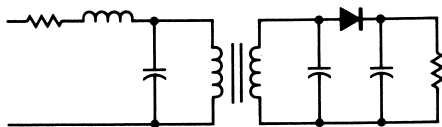

FIGURE 8.10. Transformer/Filter Circuit Showing Placement of Transient Protection Components
There are several alternate methods of protecting the rectifier diodes. All rely on the existence of some line impedance, primary transformer resistance or secondary circuit resistance. See Figure 8.10 for the system circuit.
- Series resistor at the primary with shunt capacitor across the primary winding. See Figure 8.10.
- Series inductance at the primary, possibly with a shunt capacitor across the primary. See Figure 8.10.
- Shunt capacitor on the secondary. See Figure 8.10.